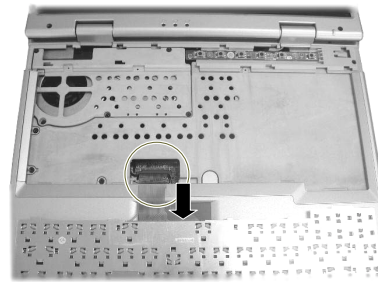

Figure 2-5 Remove keyboard
4. Slightly lift up the keyboard and disconnect the cable from the system board to detach the keyboard. (Figure 2-5)